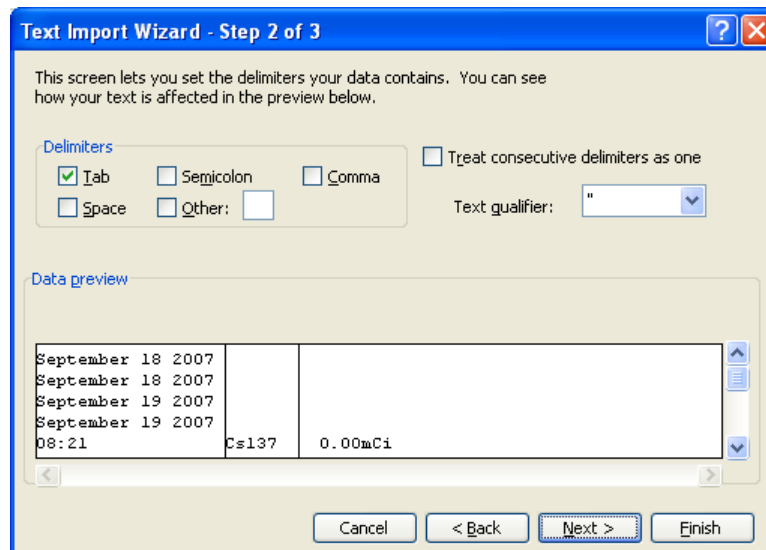

Figure 33
2. Verify that the Delimited radio button is selected and the File orin: drop-down box is set to *Windows (ANSI)*. Click the Next> button. Figure 33 will appear.